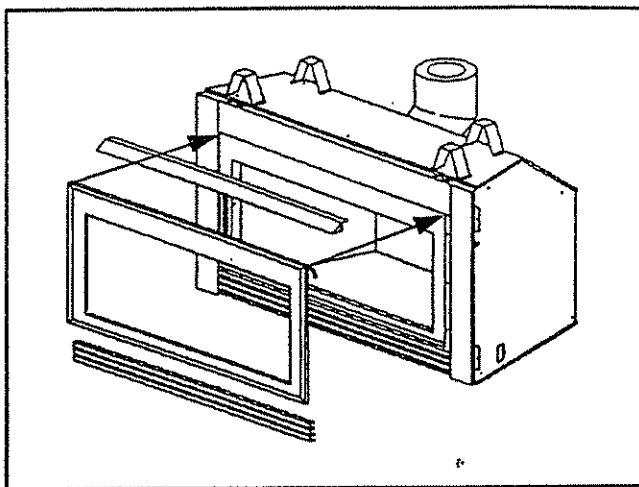

Fig. 34. Installation of the hood and trim assembly.
1. Attach trim assembly to surround of appliance by hooking top two (2) brackets over sides of combustion chamber in area shown in Fig. 34 and with two (2) sheet metal screws provided at bottom left and right. Top of trim assembly (widest part) should be level with top of combustion chamber and bottom of trim assembly should allow clearance for opening of bottom grille.
3. Snap three (3) bottom trim strips onto lower grille. (Available only with brass trim kit.)